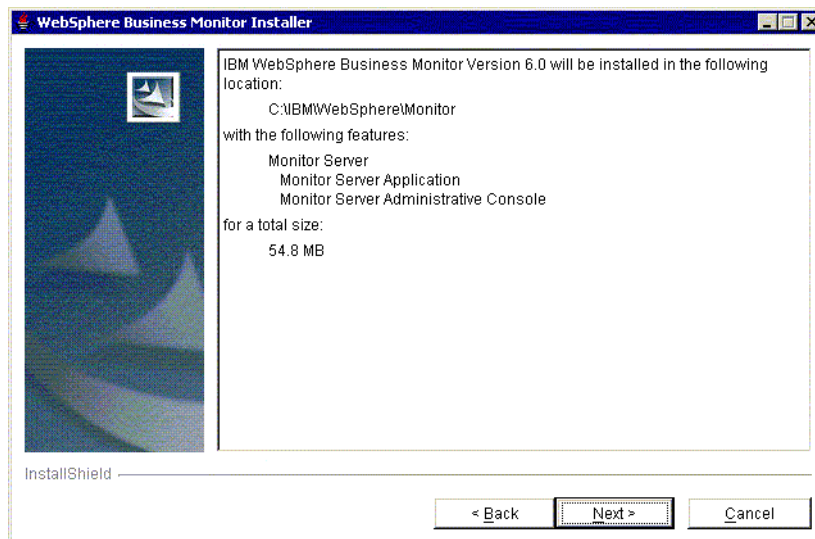

Figure B-9 Monitor Server installation: Monitor summary
- ▶ The summary is displayed (Figure B-9).